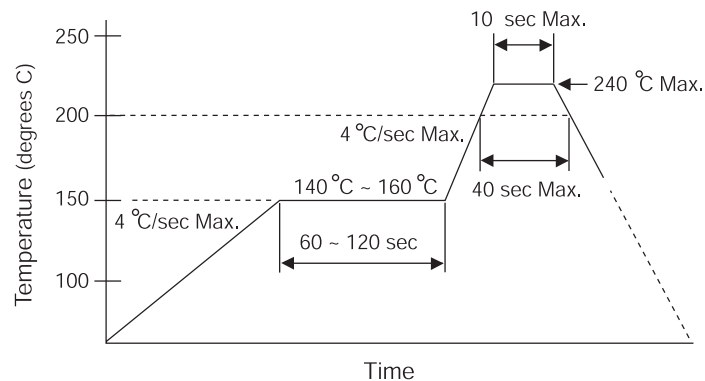

Figure 9. Temperature Profile at the Top Surface of ZHX1820
- The temperature profile at the top surface of ZHX1820, shown in Figure 9, is recommended.